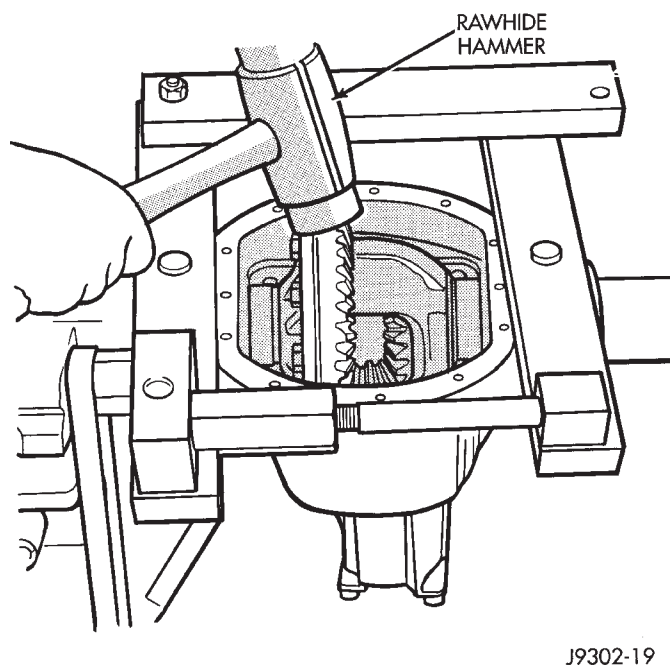
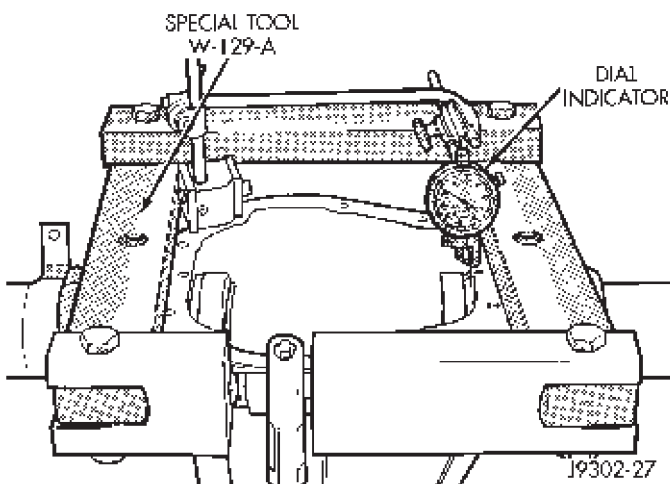

Fig. 63 Differential Installation
Fig. 62 Spread Differential Housing
(1) Position Spreader W-129-A with the tool dowel pins seated in the locating holes (Fig. 62). Install the holddown clamps and tighten the tool turnbuckle finger-tight.
(2) Install a pilot stud at the left side of the differential housing. Attach Dial Indicator to housing pilot stud. Load the indicator plunger against the opposite side of the housing (Fig. 62) and zero the indicator.
(3) Separate the housing enough to install the case in the housing. Measure the distance with the dial indicator (Fig. 62).
(4) Remove the dial indicator.
(5) Install case in the housing. Tap the differential case to ensure the bearings are fully seated (Fig. 63). Remove the spreader.